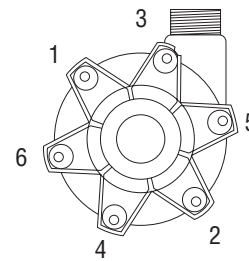

Figure 4
3. Install and lubricate the housing o-ring (item 18), and place the impeller housing onto the pump. Align the discharge and start the discharge union (do not tighten yet). Using the correct hardware, bolt the housing to the column section and tighten to 70 in-lbs. of torque using the pattern shown in figure 4. **For pumps with PVDF hardware**, a Teflon® thread lubricant must be used on all plastic threads before each use. Insert the
5/16-18 x 3-1/4 PVDF bolts through the housing and barrier. Install PVDF nut. Tighten the nuts onto the bolts using the pattern shown in figure 4.